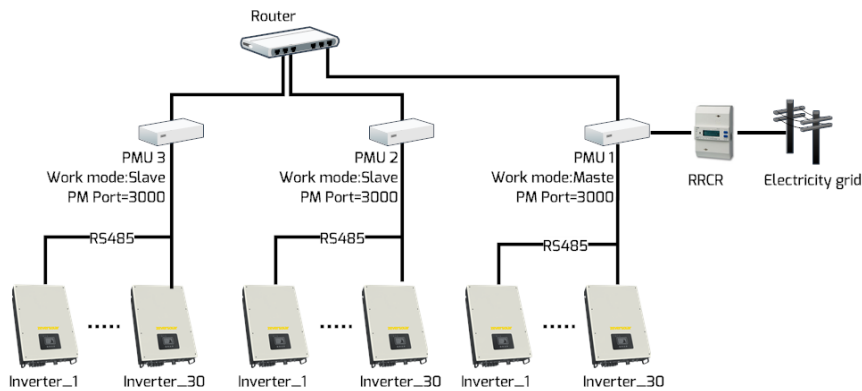

Fig. 7-8: Use PMUs to achieve power control
Step 1: First, the PMU that is connected to the RRCR must be in master mode (PMU 1 shown in Fig. 7-8). The other PMUs are in slave mode (PMU 2 and PMU 3 shown in Fig. 7-8). Secondly, the PM Port of each PMU must be set to the same value. After the setting is successfully finished, wait for the PMU to restart.
After activating this function, the PMU will send the power control instruction which it received from the RRCR to the inverter and to the other slave PMUs in the same network segment (PMU 2 and PMU 3 as shown in Fig. 7-8). The slave PMU will send all the power control instructions to the inverters connected to it.